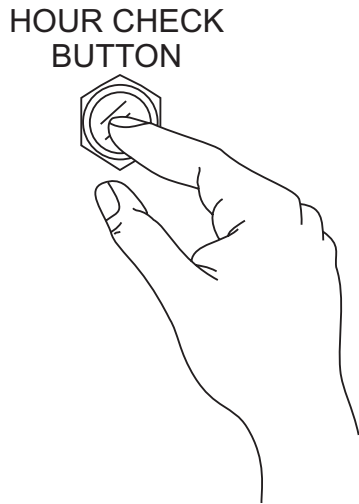

Figure 102. Hour Check Button
1. With the engine stopped (**OFF**), press and hold the **Hour Check button** (Figure 102) located on the control panel.